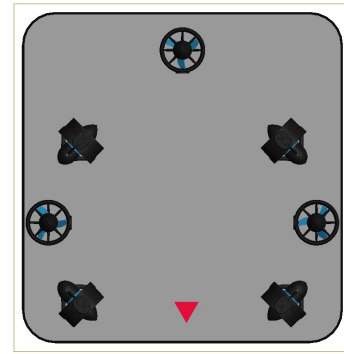

Fig. 1: Thruster Configuration
- **Thrusters Configuration:** We employed a seventh thruster this year to improve the robot's maneuverability as shown in figure 1. With the current vectored thrusters configuration and this new thruster, we can achieve motion in 6 degrees of freedom. This novel configuration may be the first of its kind to allow for such a wide range of motion while only using 7 thrusters.